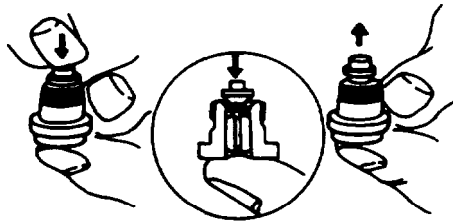

FIGURE 3-19. Delivery Valve
- d. Holding delivery valve seat, close port with finger tip. Push valve into seat and check that it is returned (by the air inside) when released, refer to FIGURE 3-19. If valve is not returned, then fit of piston in bore is too loose (due to wear) to justify reuse of this delivery valve assembly. Replace the entire delivery valve assembly.